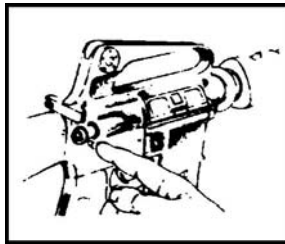

Figure 37. Seating the takedown pin.
- n. Close the upper and lower receiver groups, seating the takedown pin and ensuring the selector switch is on SAFE (Figure 37).